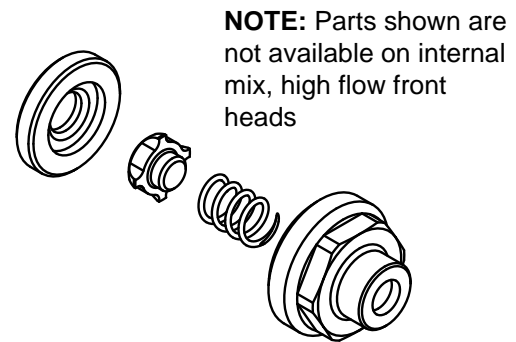

FIG. 16
9. Use a pick to remove any cured material from the front air cap (808).
10. Install new mix element into diffuser (803).
11. Install new check valve seat (816) into diffuser. See FIG. 16 for seat orientation.